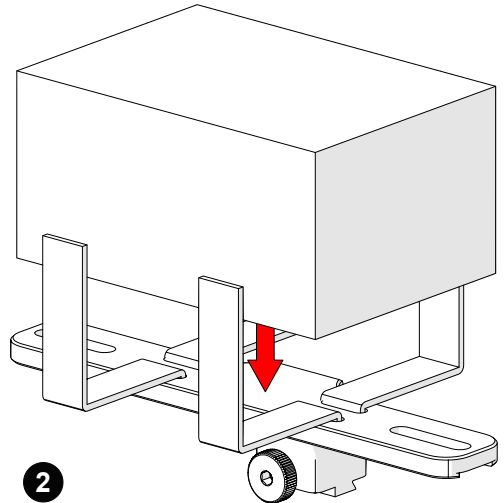

Fig. 72 - Place preamp and wrap velcro
2. Centre and place the preamp on the bracket wrapping the velcro around the preamp (Fig. 72).